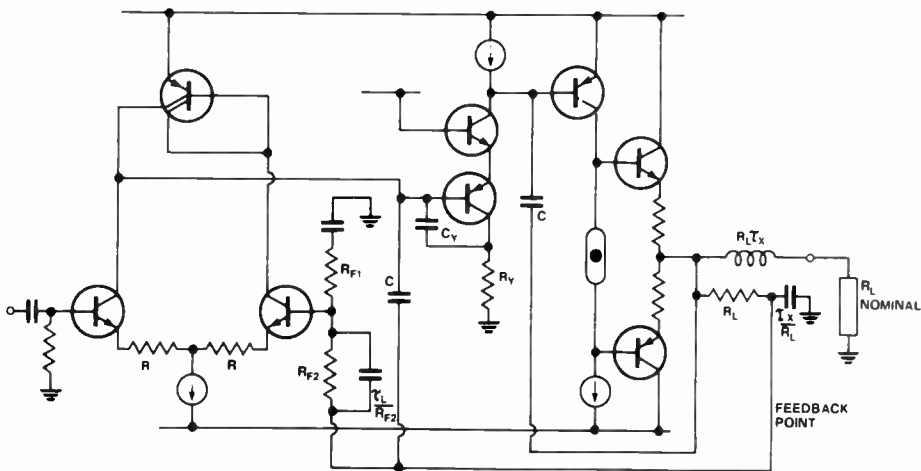

Figure 10. Outline circuit for an NDFL amplifier.
Figure 10 shows how an amplifier of the basic topology of Figure 2 can be modified to include two NDFLs. Interested readers should refer to references 14 — 16 for more details.
Notice first that the lag compensating capacitor, C , in the penultimate stage of Figure 2 has been removed in Figure 10. In its place are two capacitors (C) linking the output back to various points in the forward path. These capacitors are the feedback networks of the nested differentiating feedback loops.
A nice feature of the modified Thiele circuit in Figure 10 is that, when the load is made capacitive (a well-known source of high-frequency oscillation in amplifiers), the voltage waveform at the FEEDBACK POINT is the waveform the amplifier would have delivered into its nominal resistance load. Figures 11(b) and (c) illustrate this: the violent ringing in Figure 11(b) is simply an LC resonance between the filter inductor and the load capacitance, and is in no way indicative of approaching instability.
△ — Figure 10 (NDFL amplifier)
An amplifier has been built in which the circuit can be switched from Figure 2 to Figure 10, to illustrate the improvement in performance of adding two NDFLs. Figure 13 compares the measured third-harmonic distortions of 1 kHz. Notice how the distortion of Figure 10 drops away to below three parts per million at small signal amplitudes. Such behaviour is more typical of class-A amplifiers than class-B amplifiers, and may account for the clean sound of NDFL amplifiers.
(b) Figure 10 (NDFL amplifier)